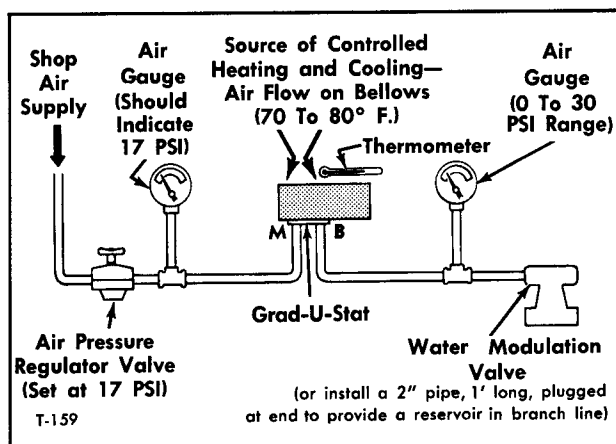

Figure 15—Grad-U-Stat Shop Test Arrangement
If the coach system is inoperative and there is no way to simulate operational conditions, a shop test will be required to check Grad-U-Stat. Figure 15 shows typical arrangement of equipment necessary to shop test unit.
1. Install Grad-U-Stat in shop test equipment as shown in figure 15.